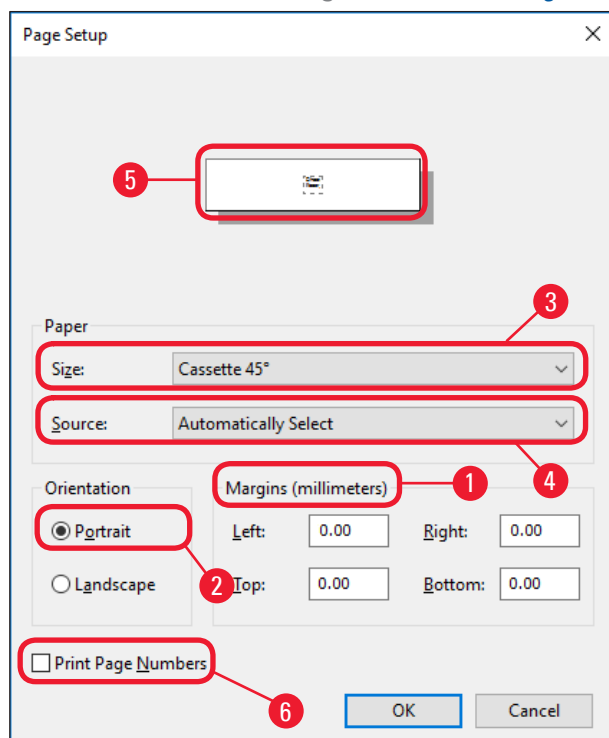

Fig. 45
3. First, the page settings must be selected: Click on **File > Page Setup** to open the **Page Setup** dialog box (→ "Fig. 45").